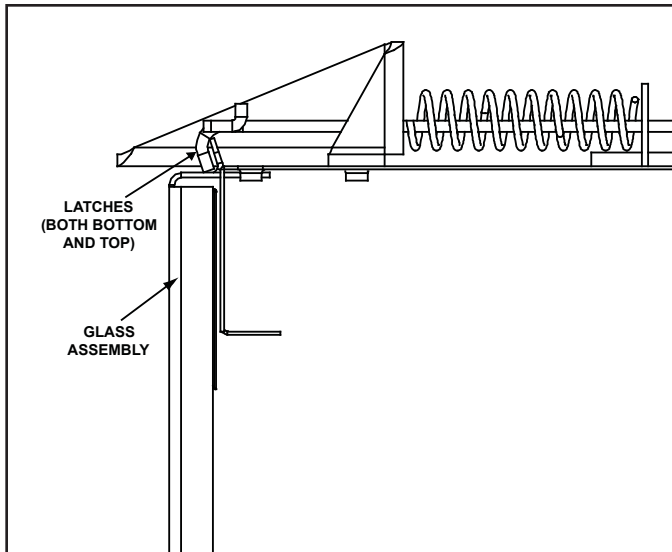

Figure 11.1 Fixed Glass Assembly
- Pull the four glass assembly latches out of the groove on the glass frame. Remove glass door from the appliance. See Figure 11.1.